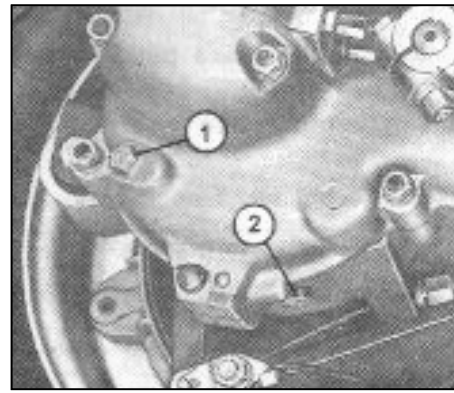

Fig. 81-Oil level Plug (1) & Drain Plug (2)
- (c) To check the oil level, unscrew plug(1) shown in (fig.81). Oil should be at level with the bottommost portion of the hole.
- (b) **Draining:** Remove drain plug (2) as shown in (fig.81) after warming up of the engine.